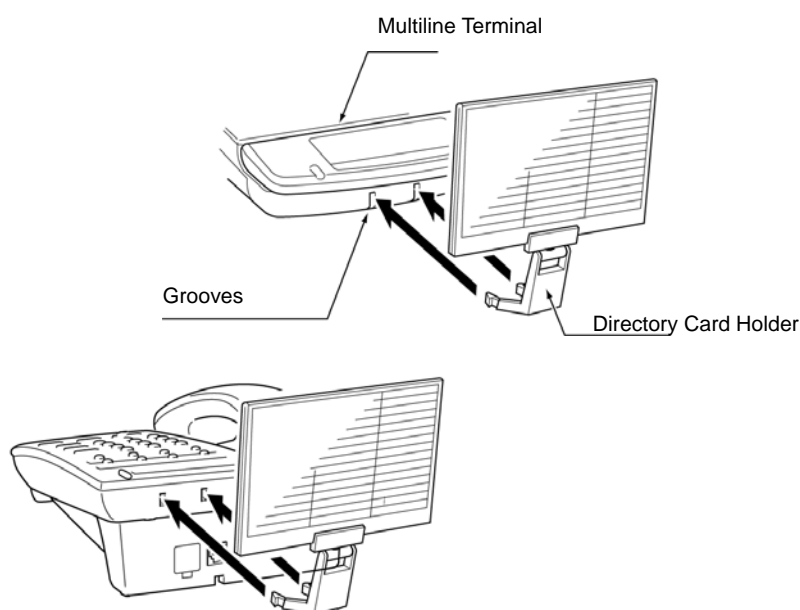

Figure 4-12: Attaching Directory Card Holder to the Multiline Terminal
2. Locate the two grooves on the top of the telephone as illustrated in *Figure 4-12: Attaching Directory Card Holder to the Multiline Terminal*. Push the directory card holder into the grooves on the Multiline Terminal until they snap into place.